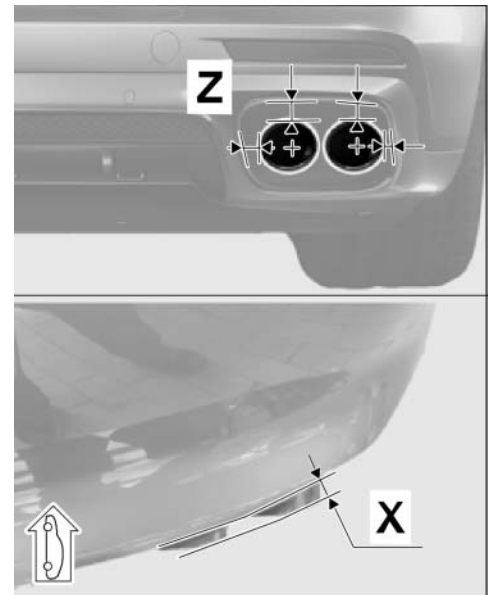

Figure 28
- 3.6.2 Check that the gap = 'dimension Z' between the new sports tailpipes and exhaust system cover (rear bumper – left and right side of vehicle ⇒ *Figure 28-Z-*) is symmetrically constant.
- 3.6.3 Check that the sports tailpipes have equal projection = "dimension X" with respect to the rear body panel (left and right side of vehicle ⇒ *Figure 28-X-*).